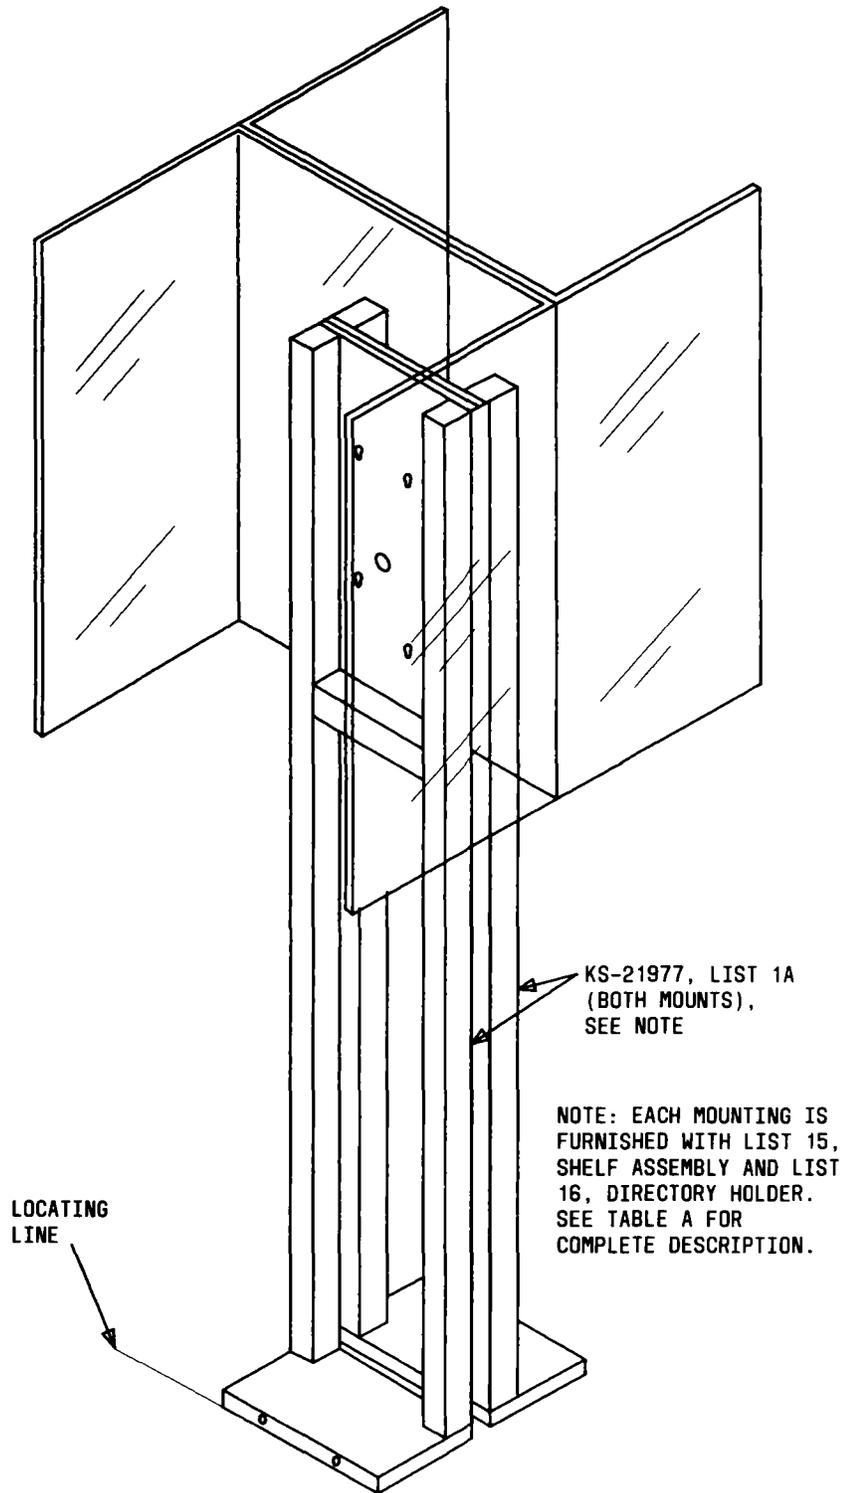

Fig. 4—Post Mountings, Back-to-Back
B. Post Mounts, Back-to-Back (Fig. 4)